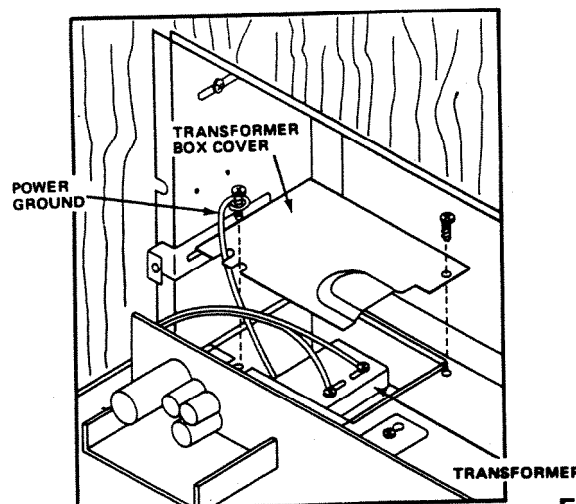

FIGURE 2
2. Refer to Figure 2. Connect two low voltage wires (red and white) to the transformer's terminal screws.
3. Refer to Figure 2. Dress and secure with two screws.